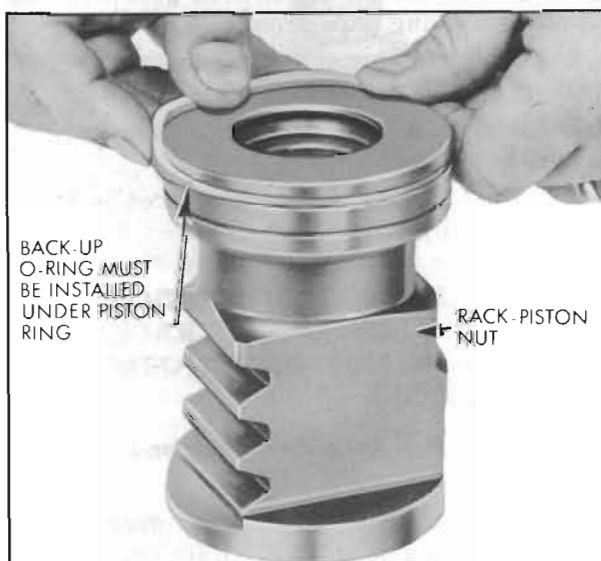

Figure 8-50—Installing Piston Ring on Rack-Piston Nut
2. Install new piston ring back-up O-ring in groove on rack-piston nut. Place a new piston ring over the back-up O-ring. See Figure 8-50.